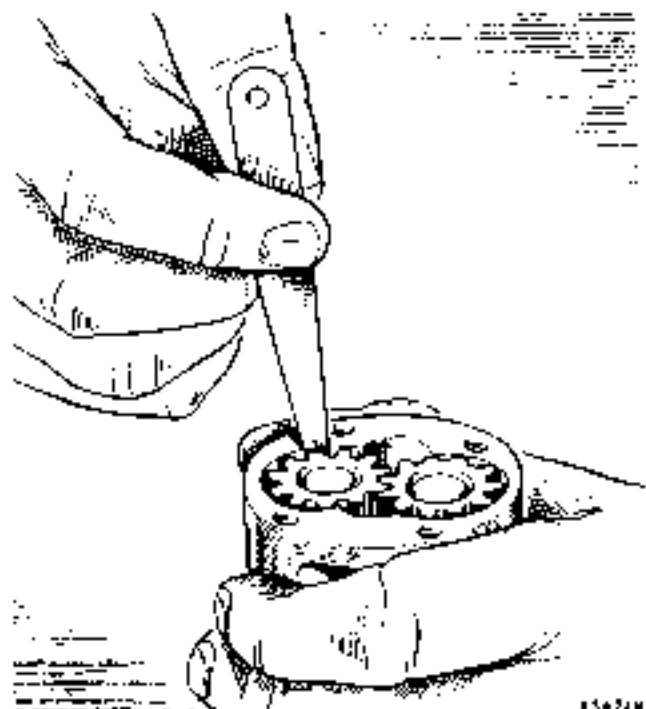

Fig. A.6
- (1) Measure the radial clearance between the teeth of the gears and the pump body (see Fig. A.6). This should not be more than .006 in. (.15 mm.)